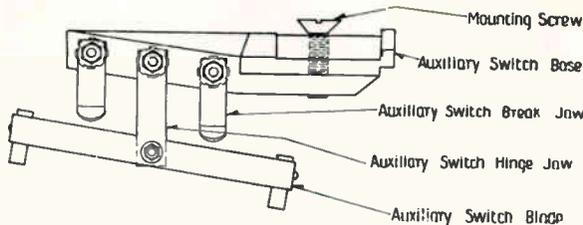

FIG. 22—AUXILIARY SWITCH
**Auxiliary Switch (Fig. 22)**—The auxiliary switch is mounted in the coverplate by a flat head screw. It is operated by the trip lever striking the fiber block in between the blades. The switch should be examined occasionally to be sure that the blades are making firm contact in the jaws, that the con-